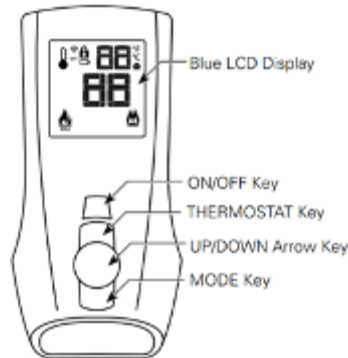
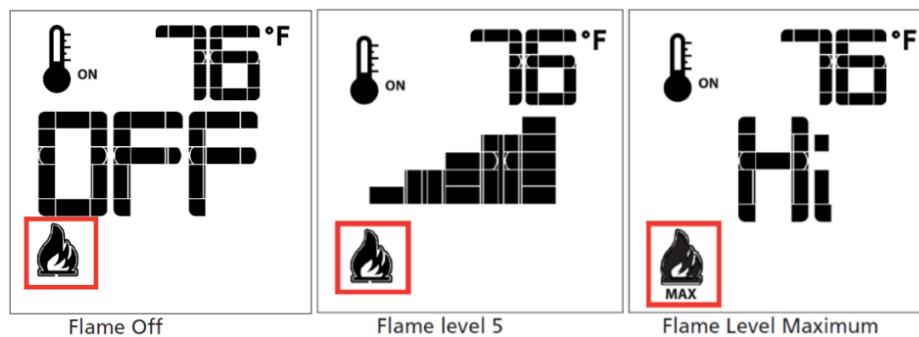
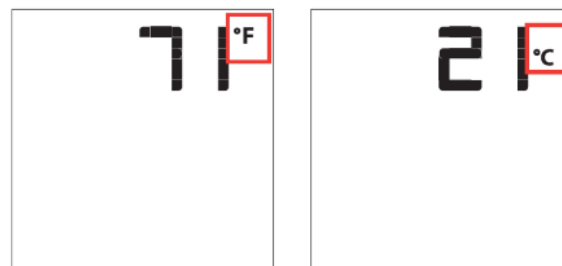
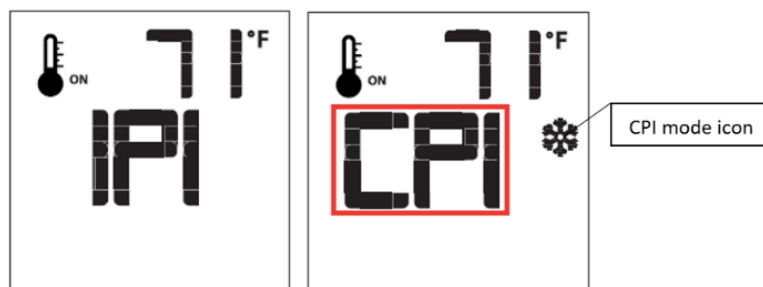

FIGURE 10
FIGURE 11
FIGURE 12
FIGURE 14
1. Insert the three (3) provided AAA batteries into the battery bay in the remote. Correctly align polarity (+/-).
3. Push the "ON" button on the remote (**Figure 10**). The control module will beep four (4) times to indicate acceptance of the remote's command. The system is now synchronized.
The system has six (6) flame levels. See (**Figure 10**) for an example. With the system on, and the flame level at the maximum in the appliance, pressing the "Down Arrow Key" once will reduce the flame height by one step until the flame is turned off. The "Up-Arrow Key" will increase the flame height each time it is pressed. If the "Up Arrow Key" is pressed while the system is on, but the flame is off, the flame will come on in the high position (**Figure 11**). A single "beep" will confirm reception of the command.
With the system in the “OFF” position, press the “**Thermostat**” Key and the “**Mode**” Key at the same time (Figure 10). Look at the LCD screen on the Remote to verify that a °C or °F is visible to the right of the Room Temperature display (Figure 12).
The IPI selection is the intended setting for the appliance operation. If remote is in CPI mode, it must be returned to the IPI mode. To turn it back the remote needs to be OFF. With the system in the OFF position, press the Mode Key (Figure 10) once to index to the CPI mode icon. Pressing the DOWN Arrow Key will return to IPI. A single “beep” will confirm the reception of the command (Figure 14).